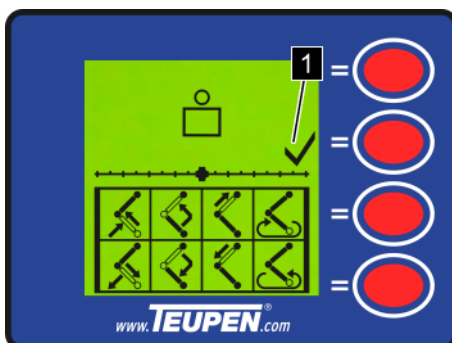

Fig. 128: Working basket transport position
7. ➤ Continue to swivel the working basket in the direction of the transport position until the transport position is shown on display screen with a tick (Fig. 128/1).